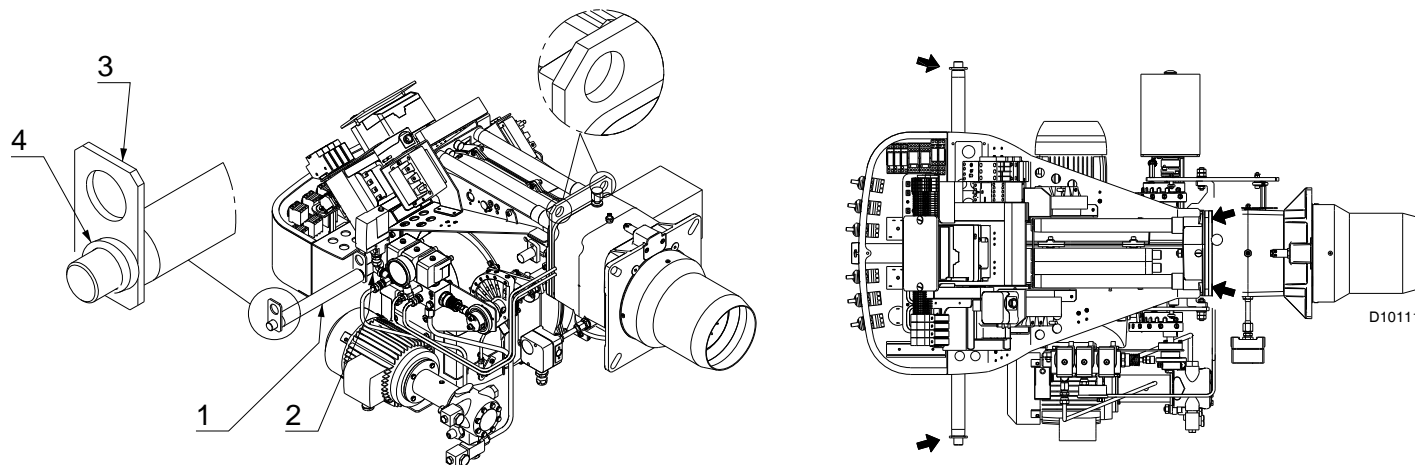

Fig. 10
- screw the two extension bars 1) on the pins 2) (Fig. 10);
The four burner lifting points are indicated in Fig. 10.